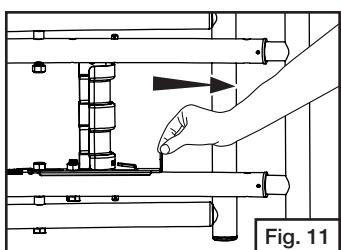

Fig. 11
- Pull the latch bracket out of the slot. (Fig. 11)